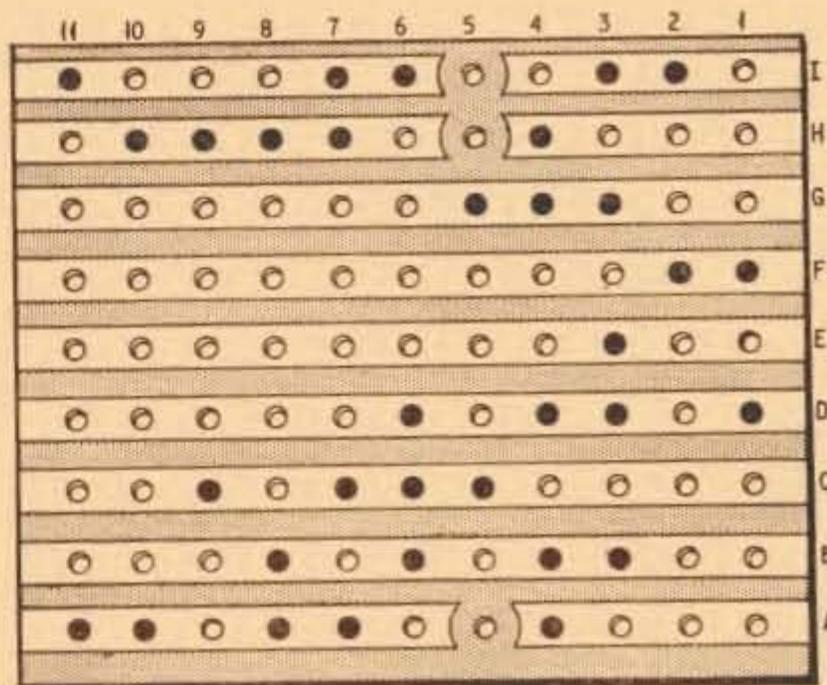

Fig. 2. Underside view showing the breaks in the copper strips and component connections
The pattern of the Veroboard to accommodate the components and circuitry is shown in Fig. 2. Link A and points (1) and (2) are also shown here.